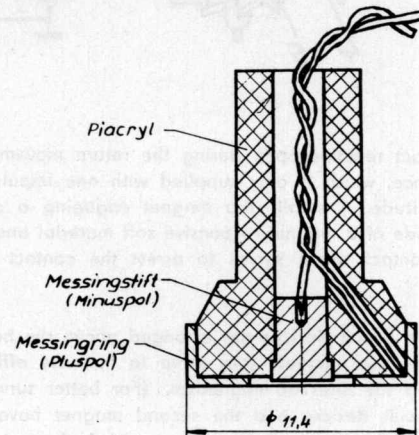

Fig. 6
- (1) the watch must start at once because of the high peak current loading the instrument;
- (2) a short circuit, which might damage the instrument, will have to be strictly avoided. A contact head, corresponding to Fig. 6, will permit definite and short-circuit proof measurement of the integrated current.